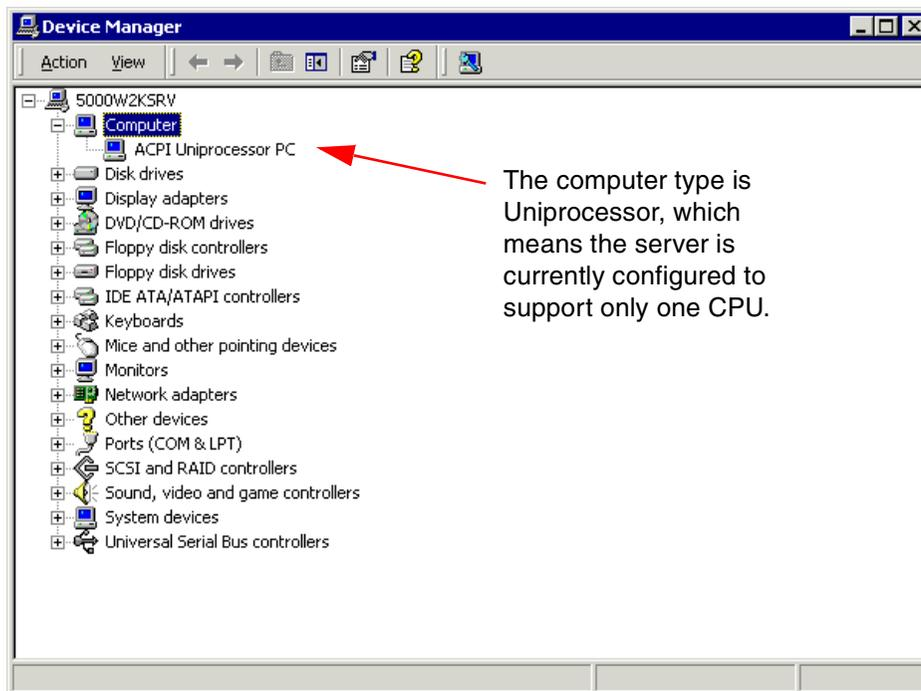

Figure 110. Device Manager
2. In the right-hand pane, expand **Computer** by clicking the + icon next to it as shown in Figure 110. You will see that the existing computer type is ACPI Uniprocessor PC.